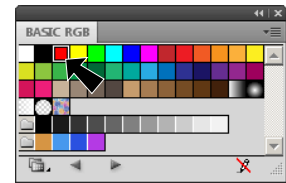

Fig. 54
Step 4. Click the **Red** swatch in Swatch panel, **Fig. 54**.